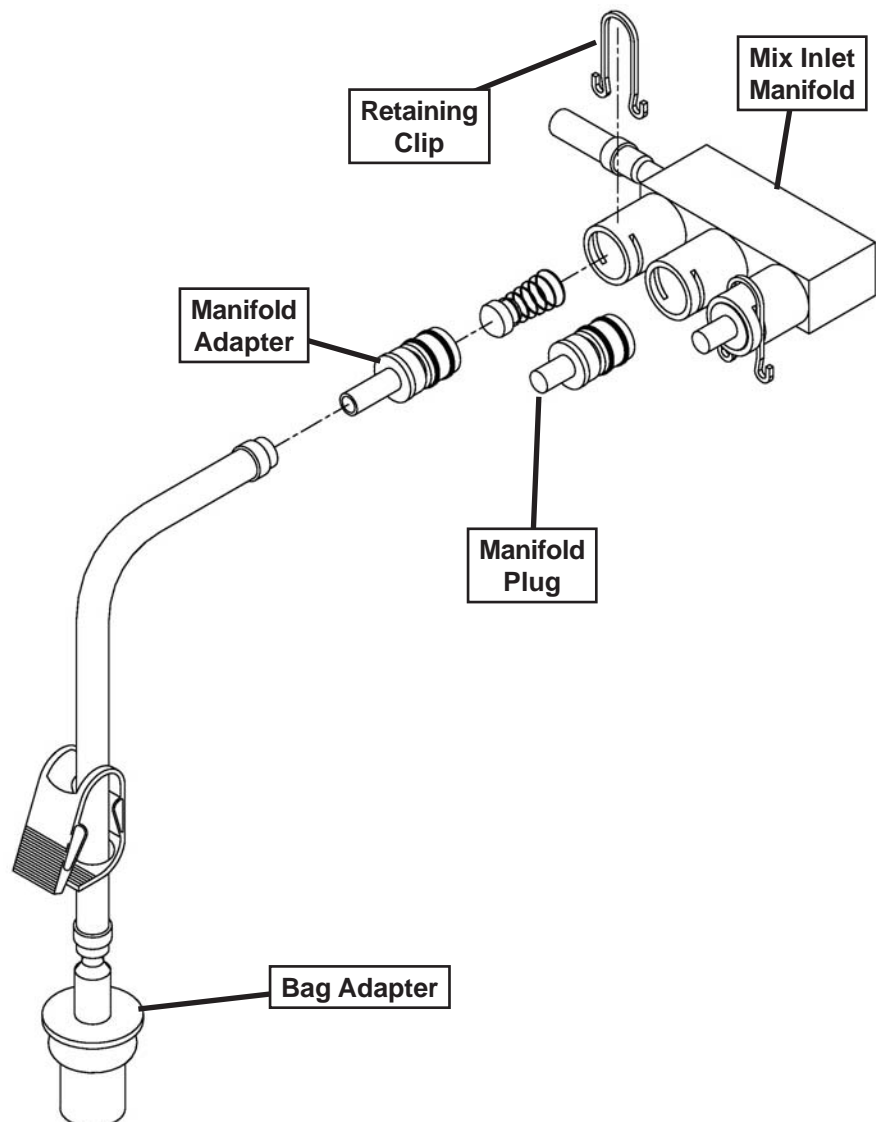

Figure 2-5 Bag Connection System (Optional)
3. Push the manifold adapter with spring and valve into the left port (nearest the manifold outlet) of the mix inlet manifold and secure with retaining clip. (See Figure 2-5).